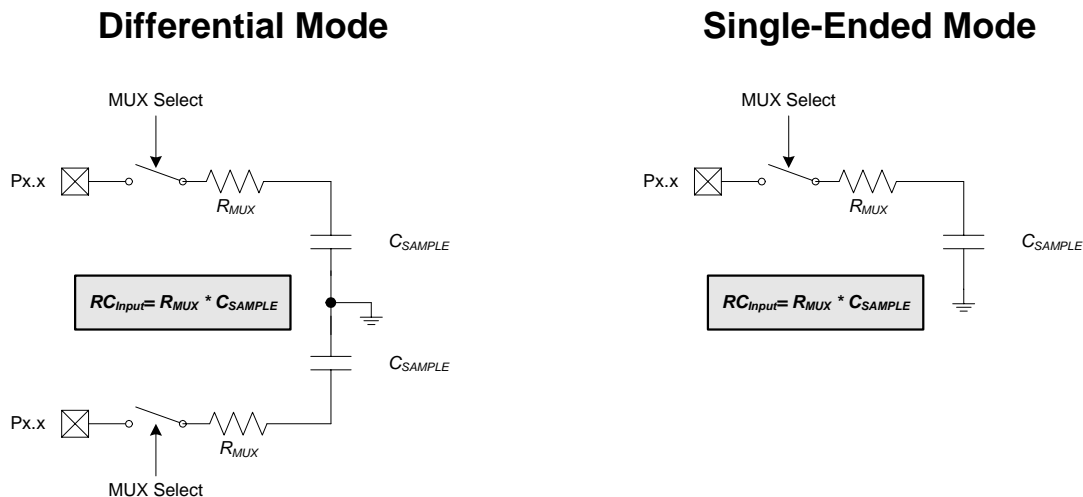

Figure 7.3. ADC0 Equivalent Input Circuits
Figure 7.3 shows the equivalent ADC0 input circuits for both Differential and Single-ended modes. Notice that the equivalent time constant for both input circuits is the same. The required ADC0 settling time for a given settling accuracy (SA) may be approximated by Equation 7.1. When measuring the Temperature Sensor output or  $V_{DD}$  with respect to GND,  $R_{TOTAL}$  reduces to  $R_{MUX}$ . See Table 6.8 for ADC0 minimum settling time requirements as well as the mux impedance and sampling capacitor values.